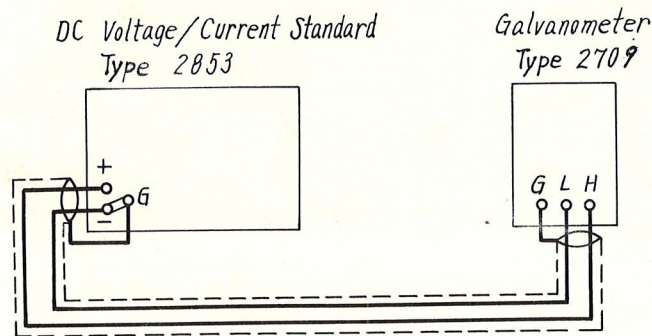

Fig. 3.2 Circuit for zero adjustment of amplifier
- (1) Set the range selector switch to the position of "x 1V", and set the dial to zero.
- (2) Connect the transistorized galvanometer Type 2709 to the output terminal, as in Fig. 3.2.
- (3) Adjust  $RV_{202}$  of the amplifier so that the galvanometer deflection will be within  $\pm 50 \mu V$ .
- (4) Then, set the range selector switch to the position of "x 1mA", adjust  $RV_{201}$  of the amplifier so that the galvanometer deflection will be within  $\pm 50 \mu V$  ( $\pm 50 \mu A$ ).